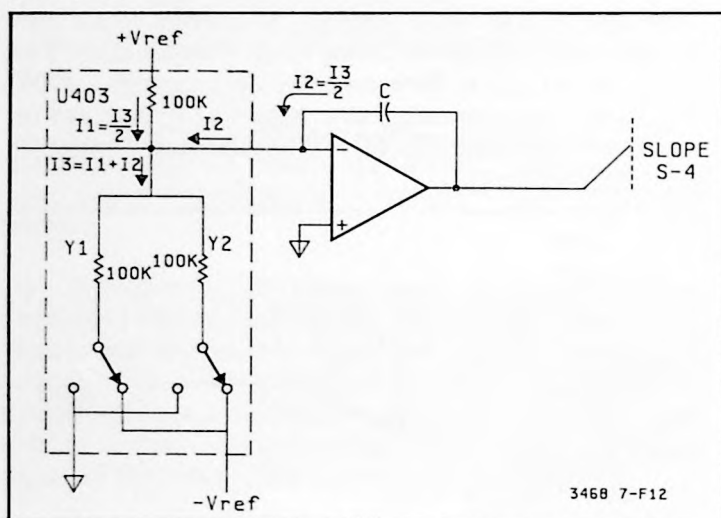

Figure 7-F-12. Slope S-4 Generation
**7-F-39. Slope S + 0 and S-0 Generation.** Refer to Figure 7-F-13. Note that one side of a 100K ohm resistor (Y1 path) is connected to ground and the other side is connected to the summing node. Since the 100K ohm resistor from +Vref (Y3 path) and the 100K ohm resistor from -Vref (Y2 path) are also connected to the summing node, no current flows from the integrator capacitor (C). This is because the resistance value of path Y2 and Y3 is the same and makes the current value of paths Y2 and Y3 the same (but opposite polarity). This is true for both slopes S + 0 and S-0. The only difference is that paths Y1 and Y2 are switched when the slopes are switched (Y1 to ground and Y2 to -Vref, or Y2 to ground and Y1 to -Vref).